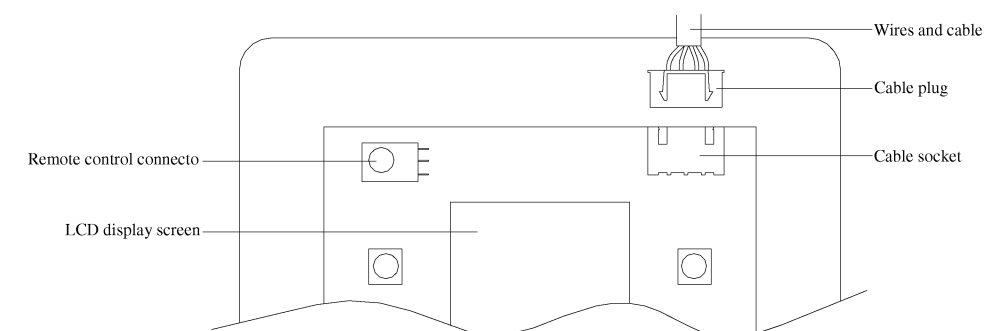

Fig. 25
- ☆ Remote controller(Outline dimension 120×120×16) connect with the connection wire of indoor unit, if it is installed in the exposed way, the 1 # PVC pipe can be selected and to set up the corresponding groove (As show in Fig. 23); if it is installed in the concealed way, the 1 # PVC pipe (As show in Fig. 24) can be selected, then install the connection wire on the remote controller (As show in Fig. 25), finally to fix the remote controller on the wall.